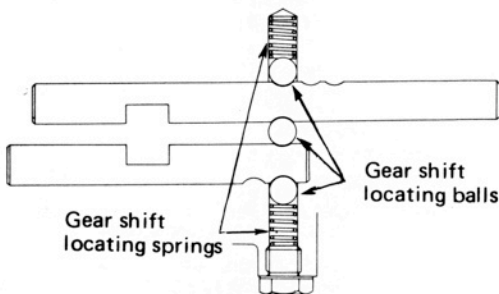

Fig. 3-19.
- 5) The gear shift locating spring and gear shift locating balls are fitted to the position as shown in the Fig. 3-19 to provide positive gear shift action and to prevent gears from slipping out of engagement. If the gears tend to slip out of engagement, check the free length of the gear shift locating spring and discard and install new one if it is beyond the service limit.